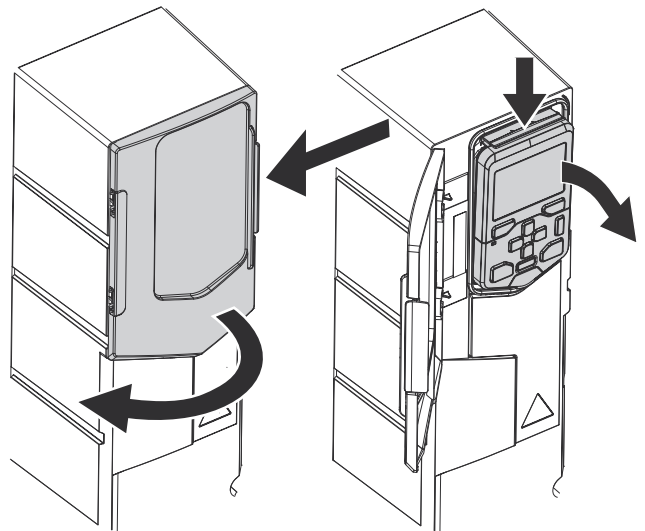

Fig. 65 — Open Keypad Cover and Remove Keypad
To replace the internal enclosure fan for frame sizes R1 and R2 perform the following (see Fig. 65, 66, and 67):
2. Remove the remote keypad, if installed. See Fig. 65.